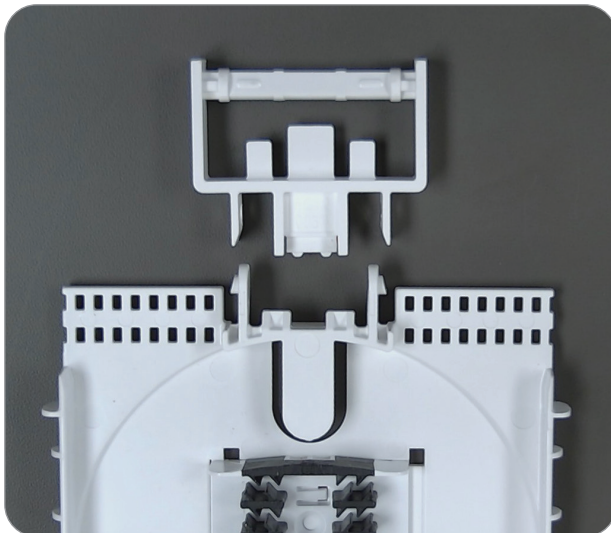

Figure 13
3. Position the adapter where the slots are under the retention tabs and slide on Apex tray. (Figures 13 and 14)